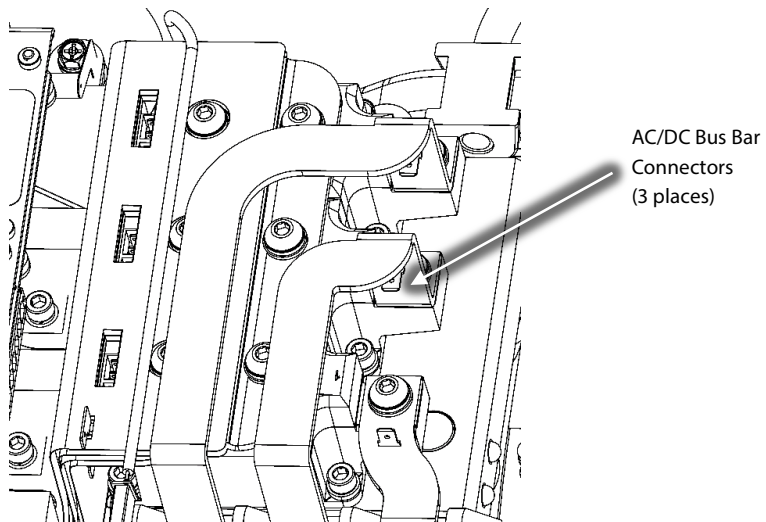

Figure 2 – AC/DC Harness Connections
9. Remove the six (6) screws that secure the three (3) terminal block bus bars to the terminal block. Refer to Figure 2 (Bus Bar Removal).
10. Remove the three (3) M8x20 screws that secure the three (3) bus bars to the SCRs. Refer to Figure 2 (Bus Bar Removal).